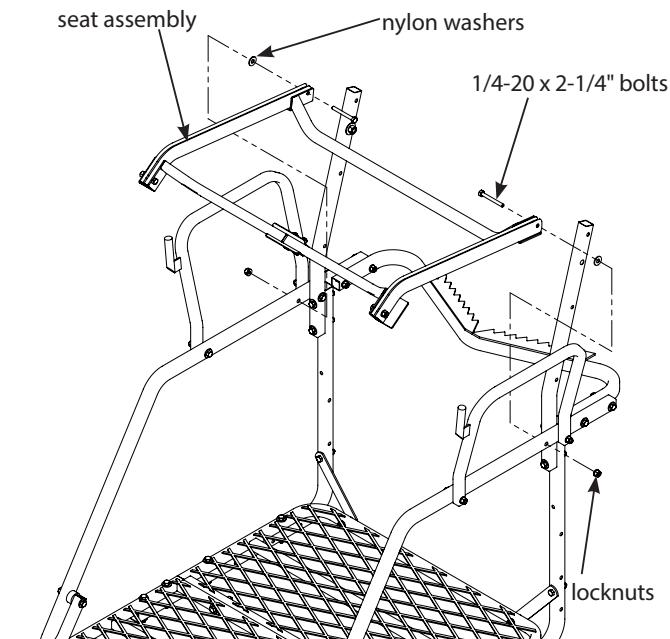

Figure 15
9. Remove the locknuts from the (2) 1/4-20 x 2-1/4" bolts that were previously attached to the rear of the seat assembly. Continue by attaching the seat assembly to the ladder side rails using (2) provided 1/4-20 x 2-1/4" bolts, locknuts and nylon washers. **SEE FIGURE 15. Make sure all (4) angle brackets are fully cradling fabric rails.**